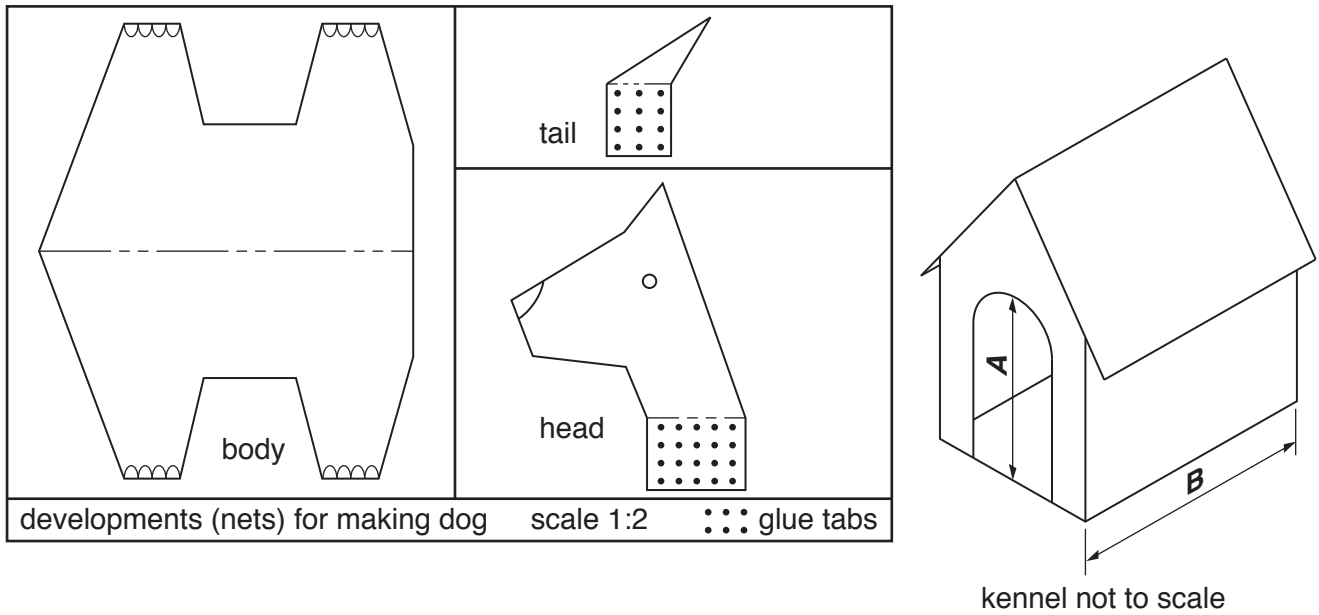

Fig. 3
- 3 Fig. 3 gives details about card models of a dog and its kennel that are to be made in a school workshop.